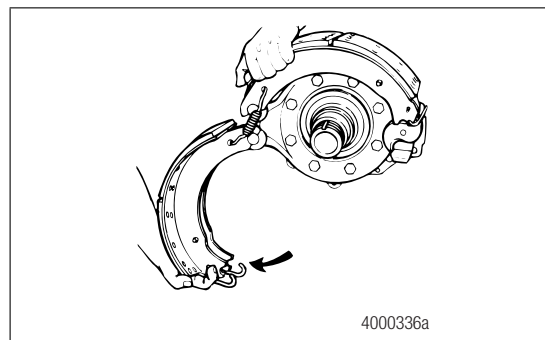

Figure 3.5
4. Rotate the bottom shoe to release the tension on the brake shoe retainer springs. Figure 3.5.